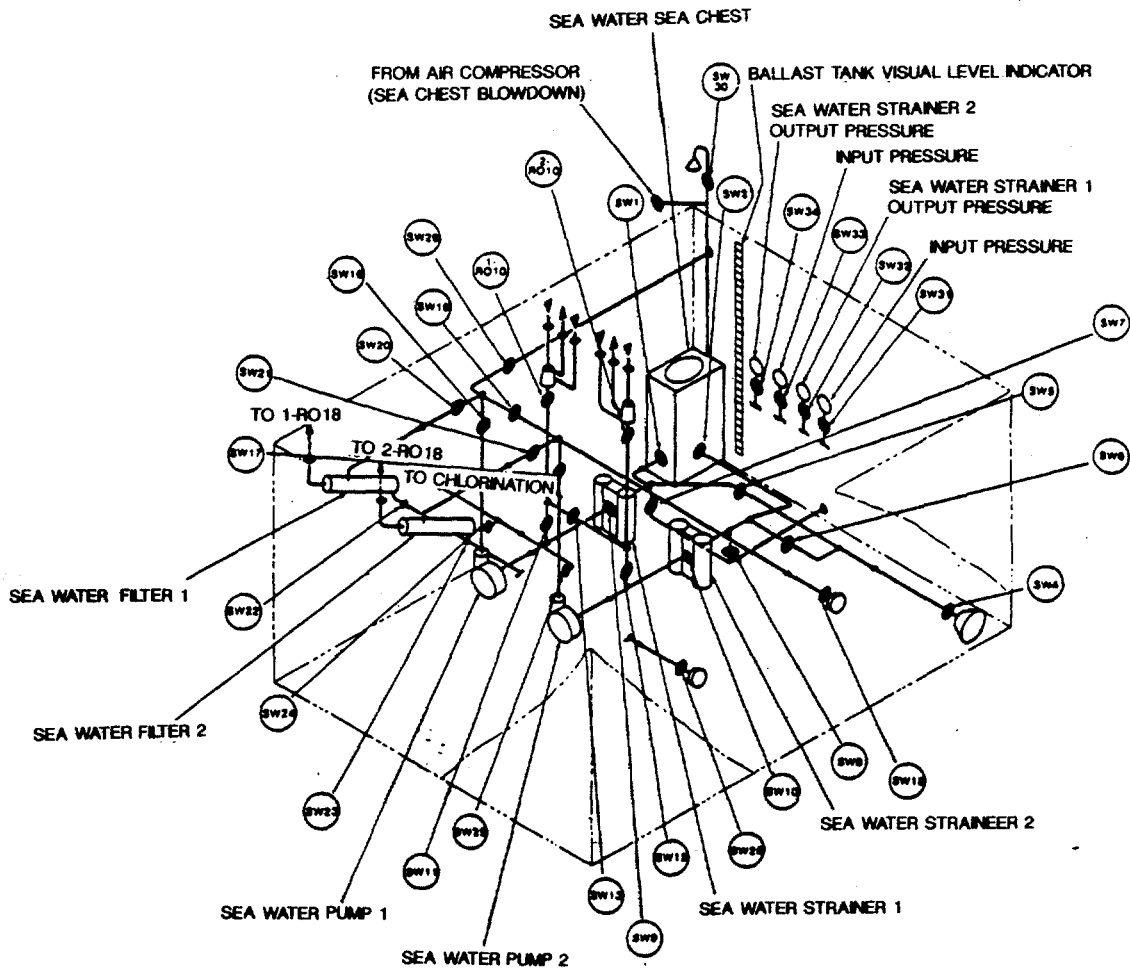
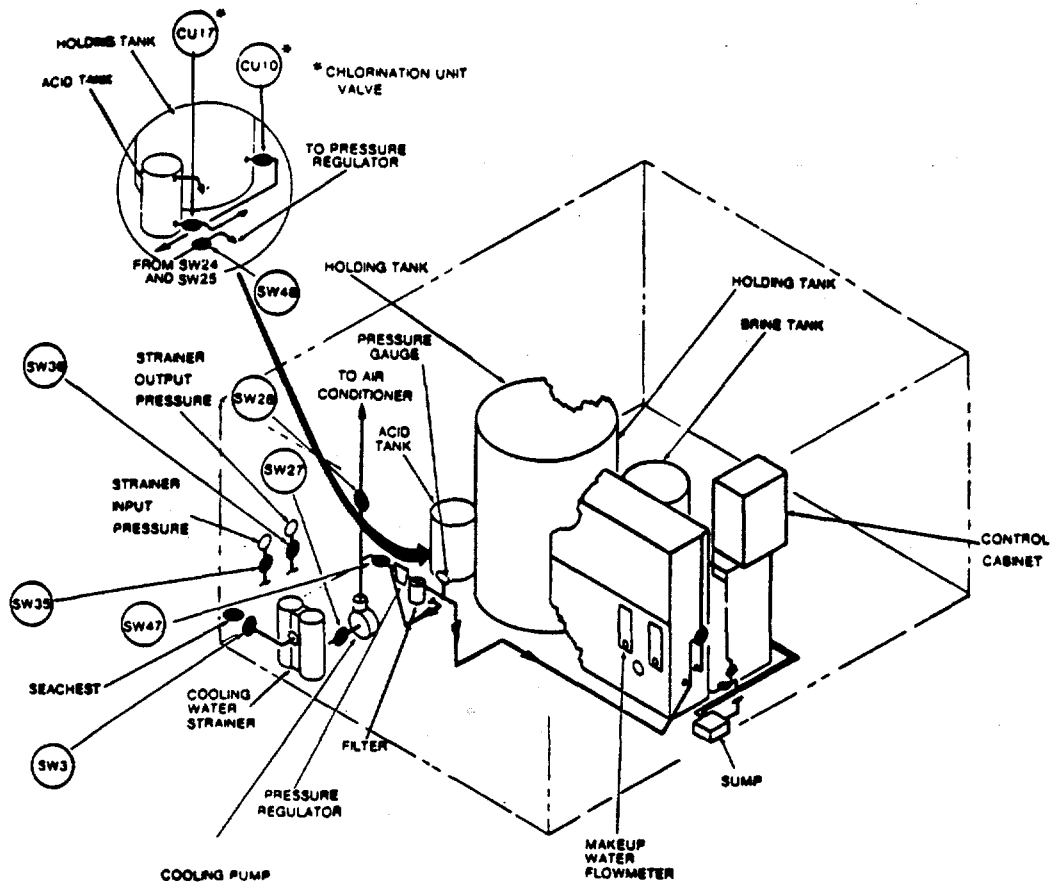
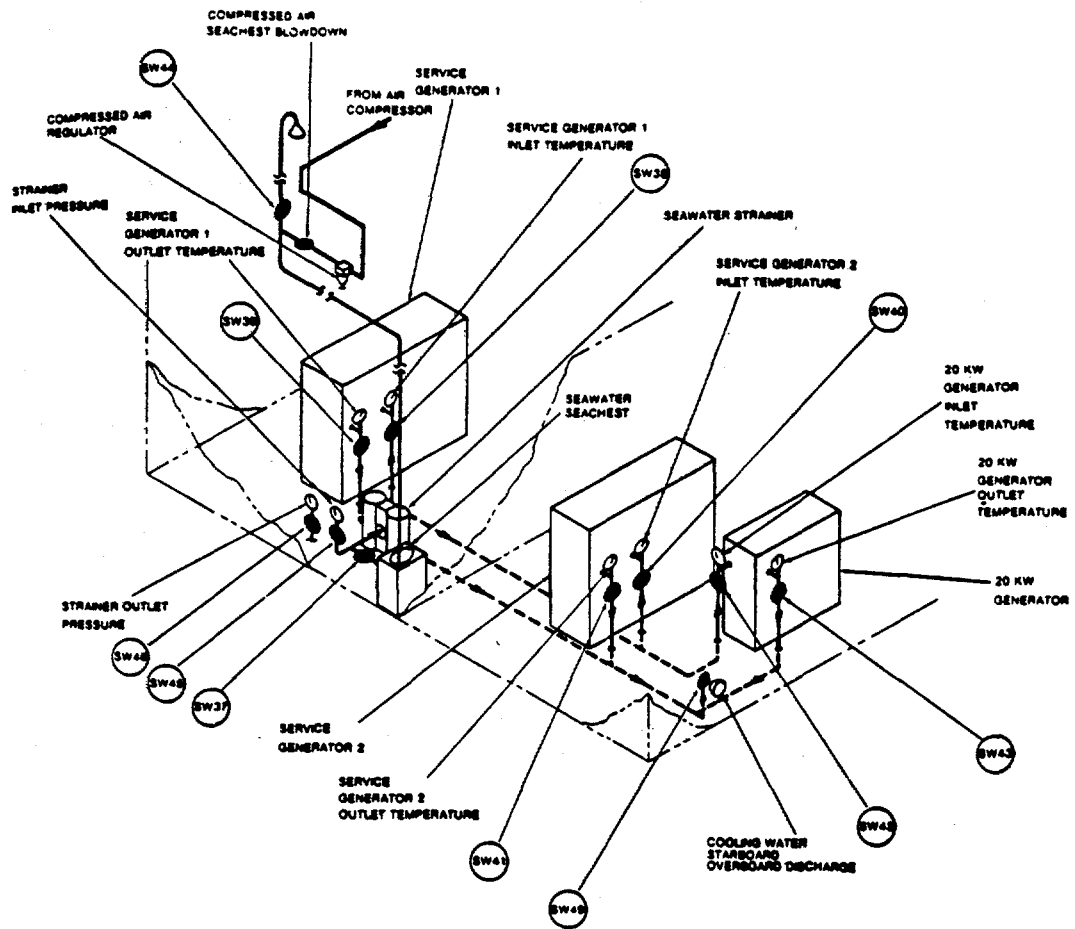

Figure 2-1. ROWPU and Ballast Seawater Supply
Figure 2-3. Air Conditioner Seawater Cooling and Chlorination Unit Supply
Figure 2-5. Diesel Engine Generator Seawater Cooling
**2-3 Seawater System Description.** The seawater system supplies seawater to the ROWPUs for processing, to the air conditioning unit for cooling, to the ballast tank (Figures 2-1 and 2-2) for barge trimming, to the chlorination unit for priming and cooling (Figure 2-3 and 2-4), and to the diesel generators (Figures 2-5 and 2-6) for cooling. There are three sources for supplying seawater; a forward seachest in void 2 starboard, a shell penetration in void 2 starboard and an aft seachest in void 4 port. The seachest in void 2 starboard supplies sufficient seawater to ROWPUs for processing when the barge is anchored in 15 feet or more of water. When anchored in from 10 to 15 feet of water, the starboard shell intake supplies sufficient seawater to ROWPUs for processing. When the barge is anchored or is pierside, seachest in void 2 starboard can be used to supply seawater for the air conditioner and the chlorination unit. Also, when the barge is anchored or pierside, the seachest in void 4 port can be used to supply seawater for cooling diesel generators.